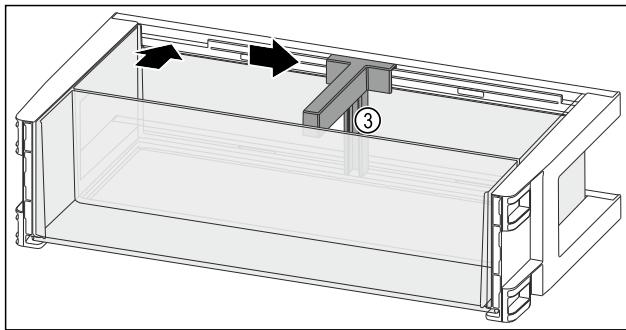

Fig. 126
- ▶ Insert the bottle holder Fig. 126 (3) in the recess.
- ▶ Push the bottle holder Fig. 126 (3) to the desired position to the side.